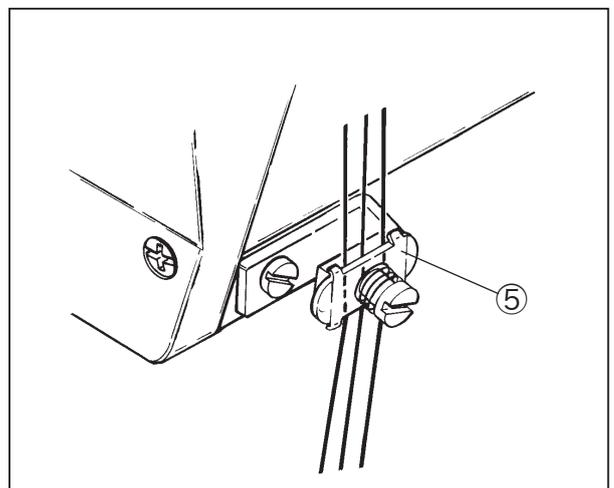

Fig. 6-3
Then thread the needle thread through the needle thread retainer dice ⑤ . (Fig. 6-3)